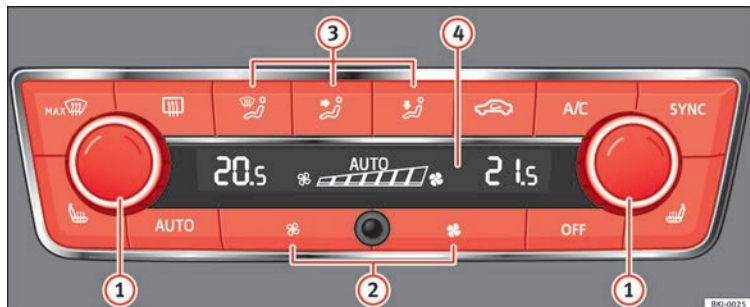

Fig. 147 Climatronic: controls.
- Set fan power to zero » Fig. 147 ② or press button **OFF**.
- Press the button **AUTO** » Fig. 147.
- When you switch on the ignition, control **1** **>>> Fig. 147** can be used to set the required interior temperature.
- Press the button **MAX**  **>>> Fig. 147**.